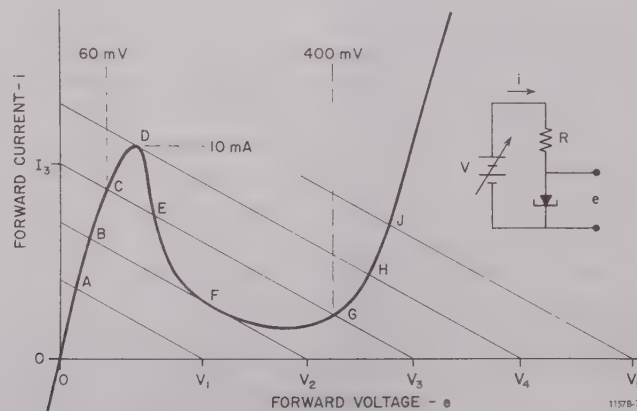

Figure 4-2. Tunnel-diode characteristics.
4.3.3 Trigger — C (Figures 4-2, 6-7).
The trigger generator processes the incoming signal to supply a negative pulse to the binary divider. These circuits incorporate tunnel diodes, whose general characteristics are shown in Figure 4-2.
Tunnel diode C-CR1 is driven far enough to change state and reverse every cycle of the input signal. (There must not be enough noise or harmonic distortion to cause extraneous reversals.) With series resistor C-R1 to absorb the voltage peaks, the signal at C-Q1 base is therefore nearly square. The rise D-H (Figure 4-2) is particularly sharp; the fall is rounded at H-F before the sharp drop F-B.
The negative pulse applied to this bridge drops whichever diode was high into the low-voltage state. Then both tunnel diodes cycle momentarily below point B (Figure 4-2). After the pulse, whichever diode was low is the first to reach point D and switches to the high-voltage state, "taking turns." Memory is provided by inductor C-L1. (Continuing the above supposition, enough inductor current is still flowing during and shortly after the pulse to give C-CR4 more current than C-CR3.)